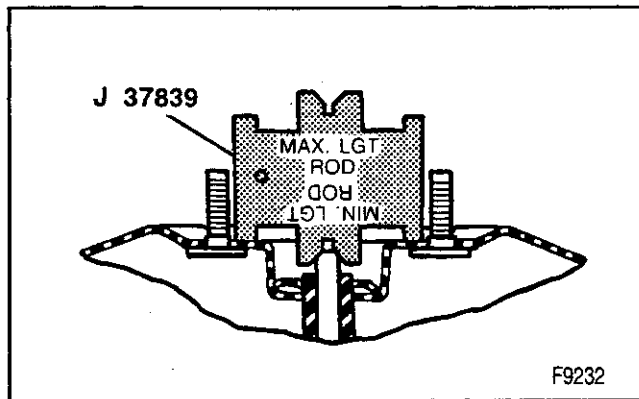

Figure 3—Gaging the Piston Rod
- Gage the piston rod using J 37839 (figure 3).